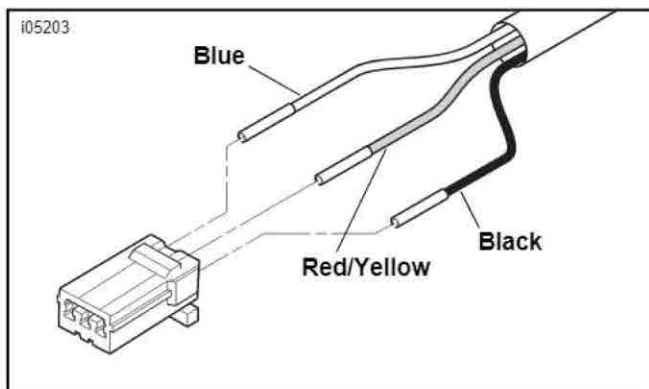

Figure 5. Wiring the Socket Housing
- See Figure 5. Insert the three wire terminals into the socket housing (9) from the kit as shown. Refer to AMP MULTILOCK ELECTRICAL CONNECTORS in the Service Manual.